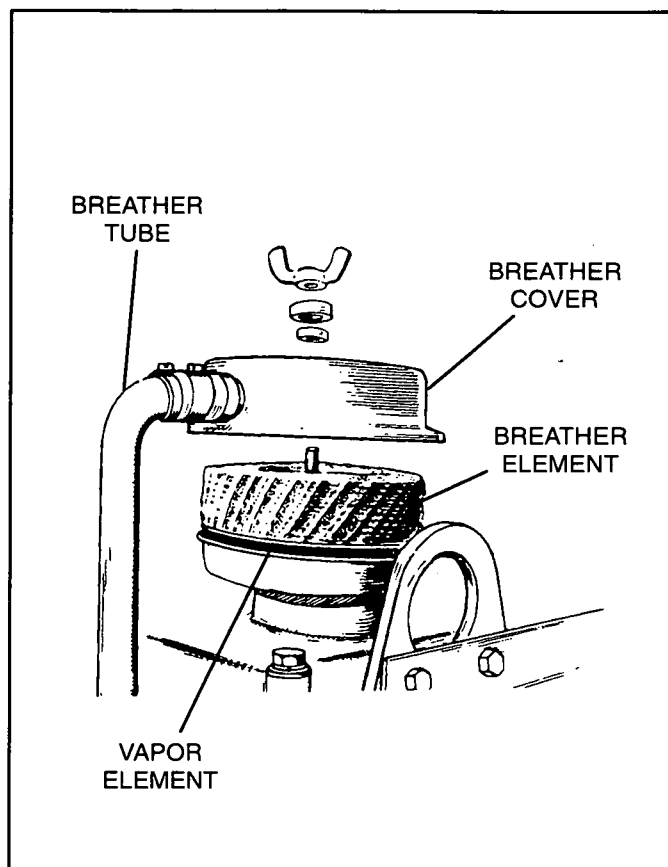

FIGURE 5-4. CRANKCASE BREATHER FILTER
1. Remove wing nut, flat washer and rubber washer holding cover, lift cover and swing away from filter assembly (see Figure 5-4).